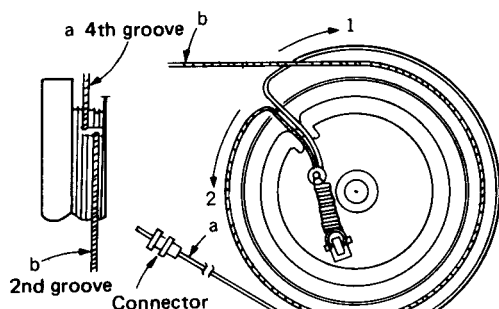

Fig. 15
4. Turn over the arm drive wheel and set the rope in the order of 1 ~ 2. (Fig. 15)